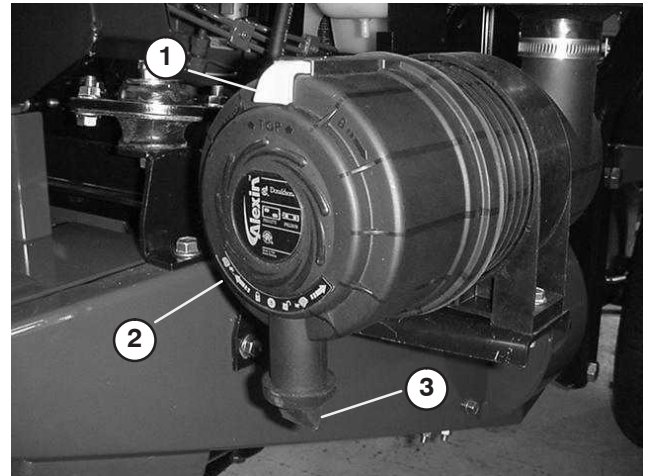

Figure 44
1. Pull latch outward and rotate air cleaner cover counter-clockwise (Fig. 44).
4. Clean the dirt ejection port located in the removable cover (Fig. 44). Remove the rubber outlet valve from the cover, clean the cavity and replace the outlet valve.